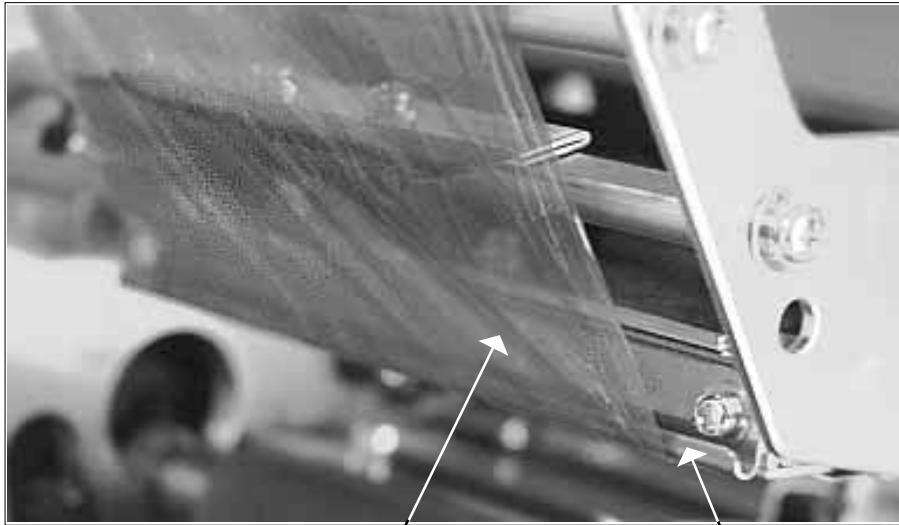

Fig. 5-4
1.	Check for even ribbon tension by watching the ribbon movement under the guide plate as it moves upward toward the ribbon rewind spindle. If it appears uneven, proceed to Step 2. Fig. 5-4